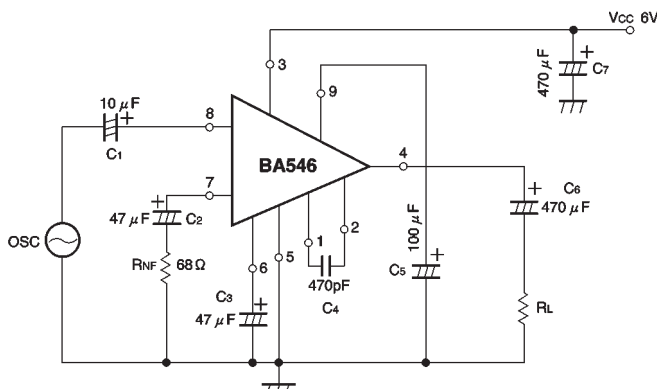

Fig. 1
- 2) Good low voltage characteristics. Begins operating at less than 2V (see Fig. 1).
## ● Attached components (see Fig. 1)